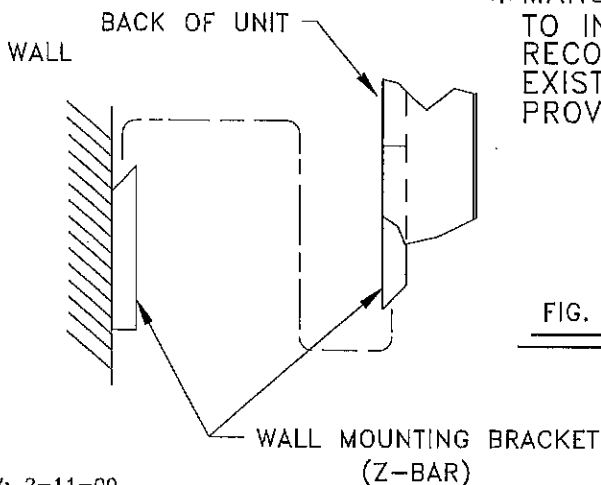

FIG. 2
7. LIFT SYSTEM BOARD ASSEMBLY ABOVE MOUNTING PLATE AND LOWER INTO POSITION (SEE FIGURE 2)
8. ATTACH PLASTIC ANGLE BRACKETS TO THE BOTTOM OF THE SYSTEM BOARD ASSEMBLY USING (2) #8 X 5/8" LONG SCREWS SUPPLIED WITH UNIT.
2. LOCATE HANGER BRACKETS 4" TO 8" FROM THE TOP LEFT AND RIGHT ENDS. (SEE FIGURE 2)